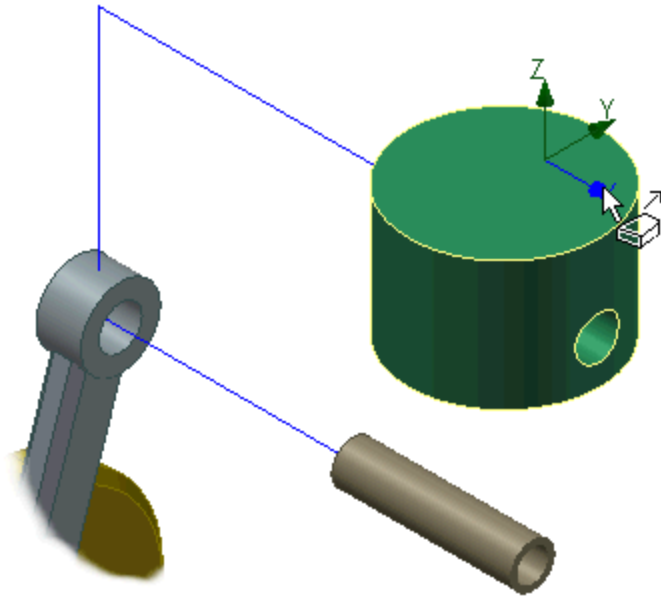

Figure 7: Piston tweak along X-axis.
3. Click and drag the X-axis arrow, and move the piston above the wrist pin (see Figure 7). Optionally, you can click a different axis button in the Tweak Component dialog box to change the active axis.